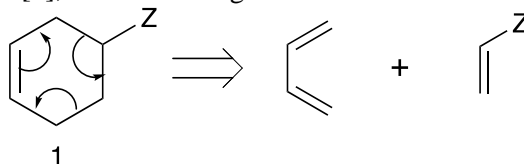

Figure 9. Electrocyclic disconnection.
The Electrocyclic disconnection is based on the Diels Alder reaction. This is often best found by drawing the reverse reaction mechanism when cyclohexene (1) with at least one electron-withdrawing group (Z) on the far side of the ring is made, three arrows around the ring are made in either direction, starting from the double bond [4], as shown in figure 9.